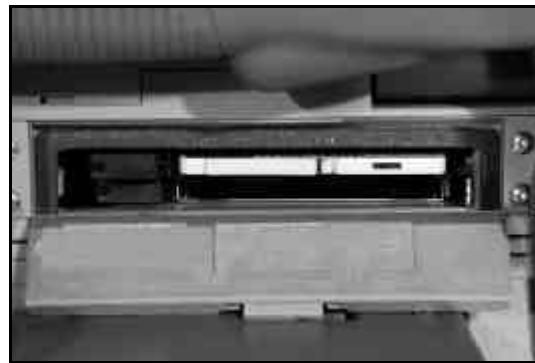

Figure 3.2 PC memory card slot
- 3 Insert the PC memory card into the PC memory port as shown in Figure 3.2. You can choose either of the two slots in the port.